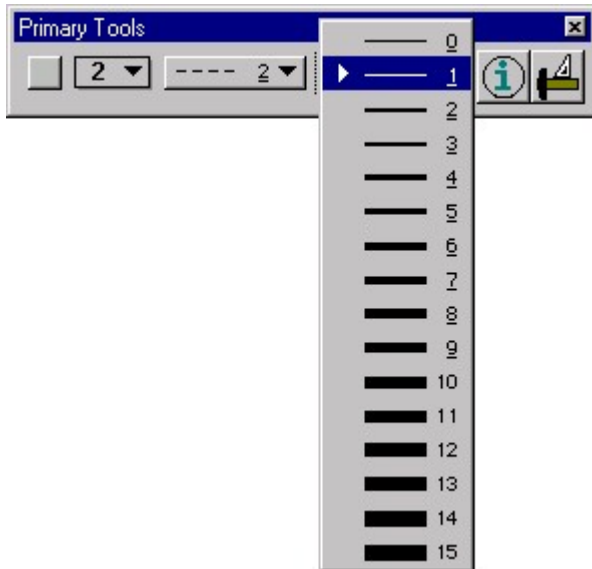

Figure 1 – Active Line Weight Setting Dialog
1. From the Primary tool bar Line Weight option menu (Figure 1), choose the desired line weight value